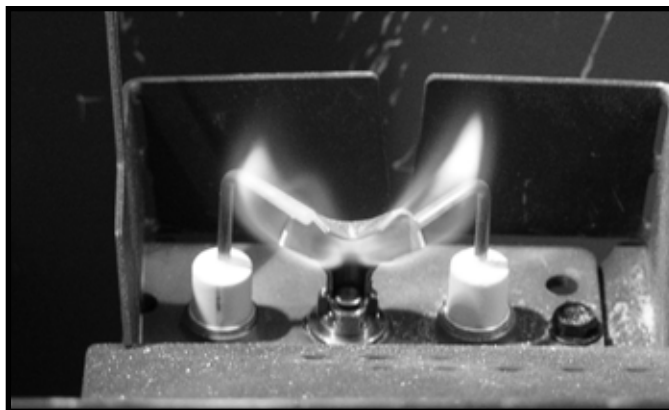

Figure 4.1 IPI Pilot Flame Pattern
- Loosen and remove two wing nuts on top glass retainer bracket. Remove glass retainer bracket. See Figure 4.1
- Inspect pilot flame pattern and strength. See Figure 4.1 for proper pilot flame pattern. Clean or replace orifice spud as necessary.